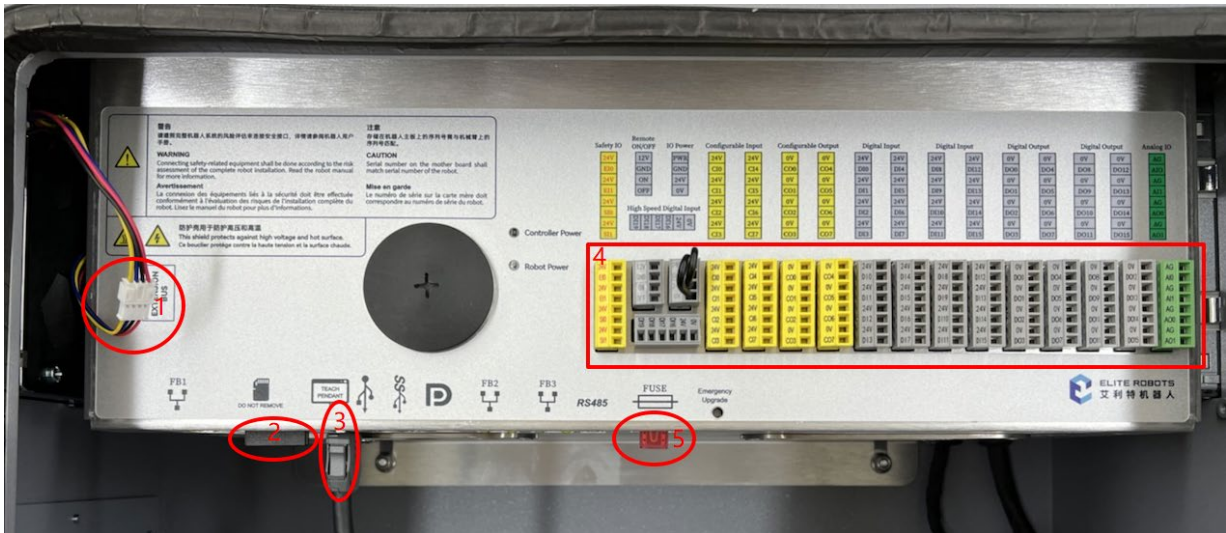

Figure 3-24 Items for removing or disconnecting
- Remove or disconnect the following parts, as shown in Figure 3-24: